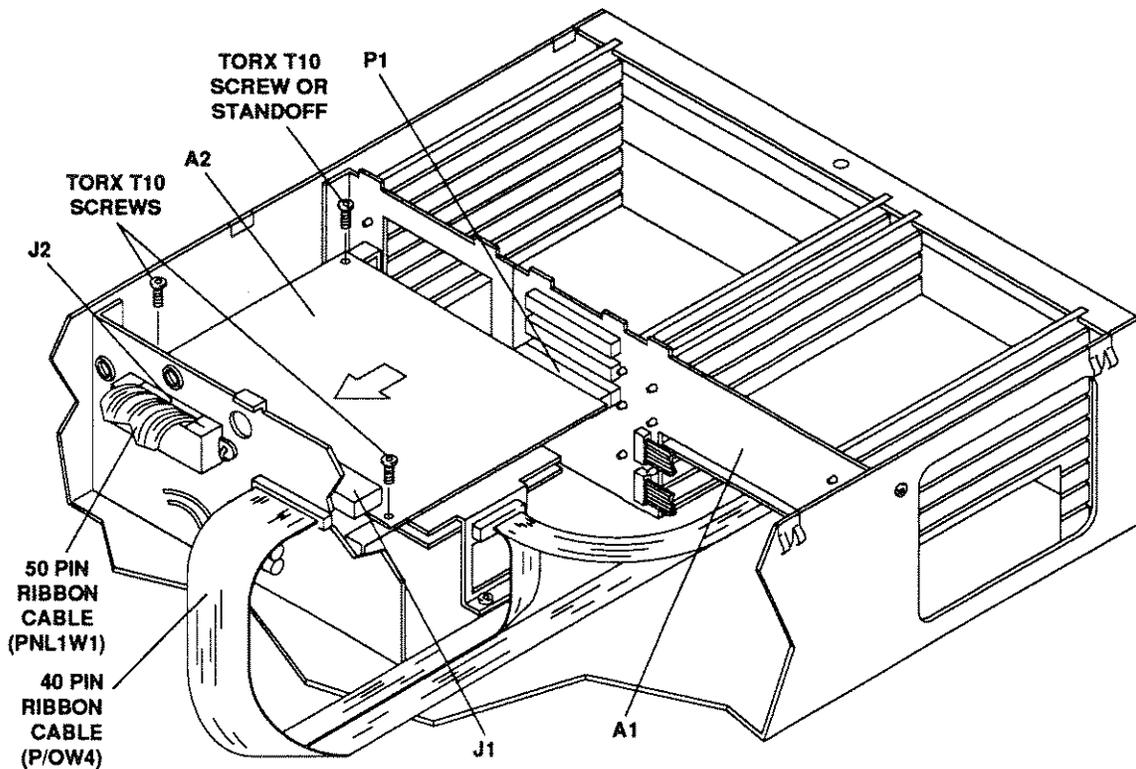

Figure 8-6. Remove and Replace A2 Controller PCA
4. Remove the A2 Controller PCA (see Figure 8-6).
3. Disconnect the following wires/cables (see Figure 8-6):